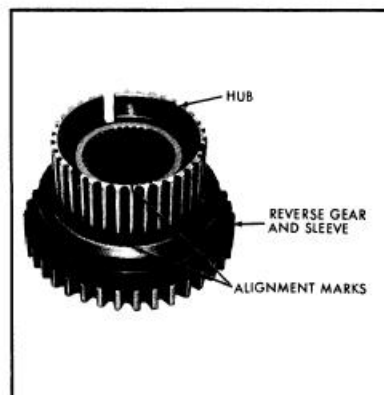

Figure 4-15—Starting Hub Into Gear
2. Start hub in sleeve making sure alignment marks are indexed. See Figure 4-15.